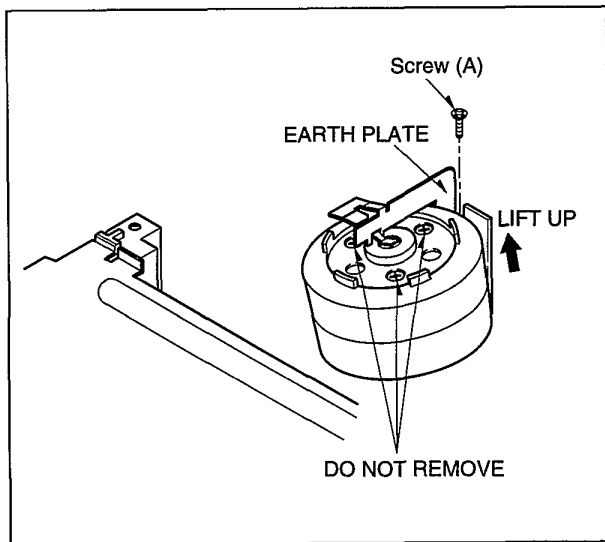

Fig. S5
- 3) Remove the Screw (A) and Earth Plate. (Fig. S5)